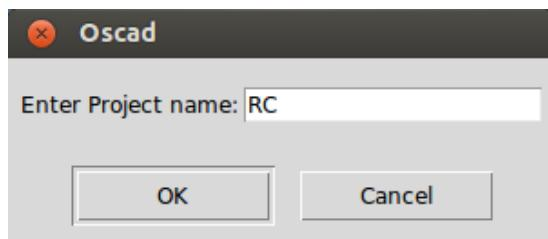

Figure 2.16: Desktop: Oscad
- Enter Project name dialog box opens up as shown in figure 2.16. Click on **OK**